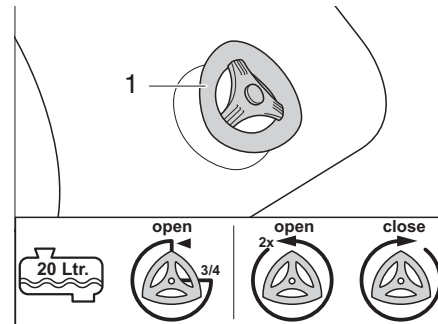

Fig. 341 Drain cock
- 1/2 full or less: Turn the drain cock (Fig. 341,1) 3/4 of a rotation anti-clockwise. The water drains off.
- 3/4 full and more: Turn the drain cock (Fig. 341,1) 2 rotations anti-clockwise. The water drains off.
- Close the drain cock (Fig. 341,1) clockwise.